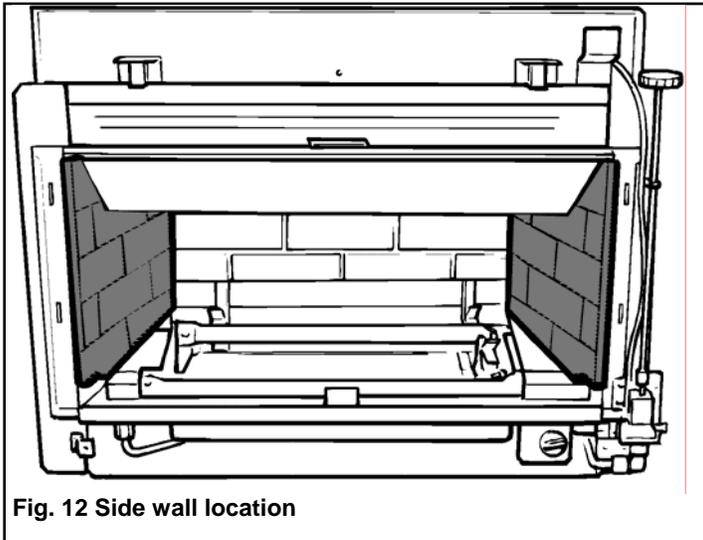

Fig. 12 Side wall location
5.4.2 Install the ceramic side walls. The side walls are left and right handed. Rest the bottom edges of the side walls on the firebox side supports. Locate the top edges of the side walls in the gaps between the edges of the top heat baffle and the firebox sides. Slide the side walls fully back to touch the rear wall (fig. 12).